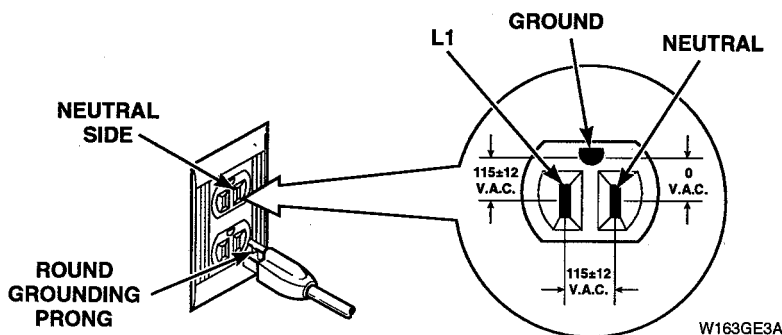

Figure 9-1
- Three-prong grounding plug on power cord should be plugged directly into a polarized three-slot effectively grounded receptacle rated 110/120 Volts AC (alternating current). See Figure 9-1.